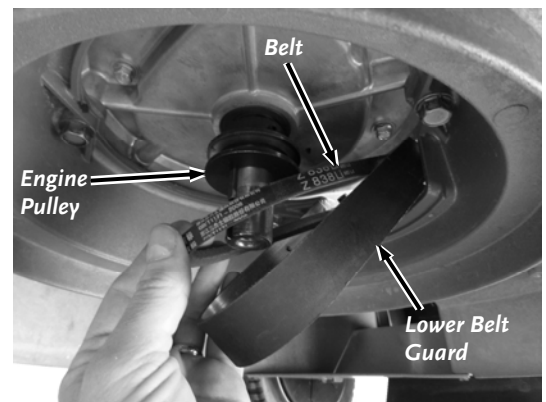

Figure 22
- Pull the Lower Belt Guard down enough so you can remove the Belt from the Engine Pulley (**Figure 22**).